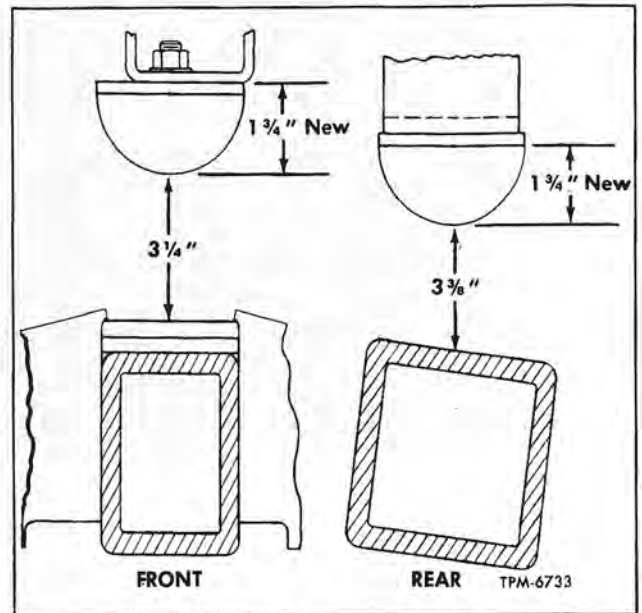

Figure 4—Normal Ride Height Clearance
**Normal Ride Height.** Ride height measurements are taken between axle bumpers and top of axle housing as shown in figure 4. Clearance between bumper and axle at front is 3-1/4", and at rear 3-3/8".
**NOTE:** Normal ride height clearance dimensions given are based on the thickness of new axle bumpers (fig. 4). If coach is left standing for extended periods without air pressure in the air suspension system, the weight of the body on the axle bumpers may cause the bumpers to take a permanent set in a flattened condition. Original thickness of new bumpers is shown in figure 4. If bumpers are flattened to less than the dimension shown, an equal amount should be added to the clearance specified to maintain normal ride height.
4. Connect upper radius rod (4) and lateral radius rod to anchor brackets. Refer to "Radius Rods" later in this section. Do not tighten cap screws or mounting bolt nut.
6. Install lower radius rods (8). Refer to "Radius Rods" later in this section. Do not tighten cap screws or mounting bolt nuts.
8. Position each end of axle by raising or lowering jacks to provide a clearance of 3-1/4" (normal ride height) between axle bumper and contact surface on suspension support (fig. 4). Refer to "NOTE" under "Ride Height Check and Adjustment"
9. With axle still in normal ride height position (step 8 above), connect height control valve link (5) to height control valve.
14. Raise coach and remove blocks from under body. Lower vehicle to floor and remove jacks. Build up air pressure in system to normal operating pressure. Wait a few minutes for air to flow into suspension system, then check clearance between axle bumpers and suspension supports (fig. 4). If clearance is appreciably more or less than 3-1/4", adjust overtravel lever on height control valve as necessary to obtain this dimension. Refer to "Ride Height Check and Adjustment" earlier in this section. Make sure lever adjusting nut is tight when adjustment is completed.